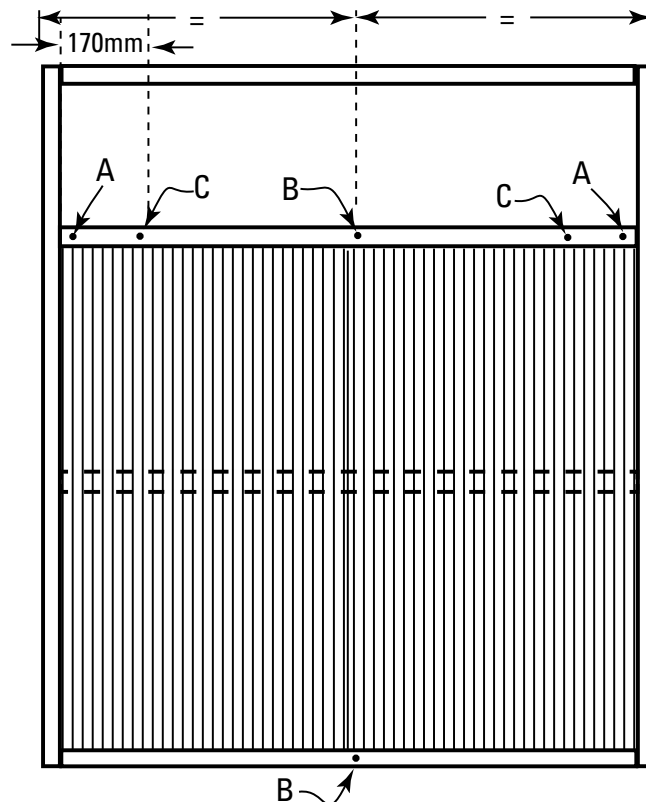

Figure 23.4
- 5) Notch the top leg of the lattice on both ends. (Figure 23.4)
10. For gate with 'Plus' option, drive an additional #10-16x16 screw into the two corners of the lower top rail passing through the lattice clip in alignment with Position A (Figure 23.4)
13. For extra wide gate with lattice additional screws are required (Figure 23.4)